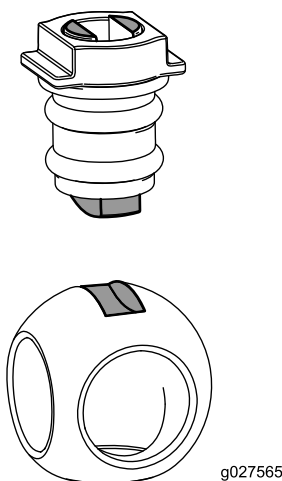

Figure 132
6. Insert the ball into the valve body (Figure 132).
Note: The valve stem should fit inside the ball drive slot. If the valve stem does not fit, adjust the position of the ball (Figure 132).